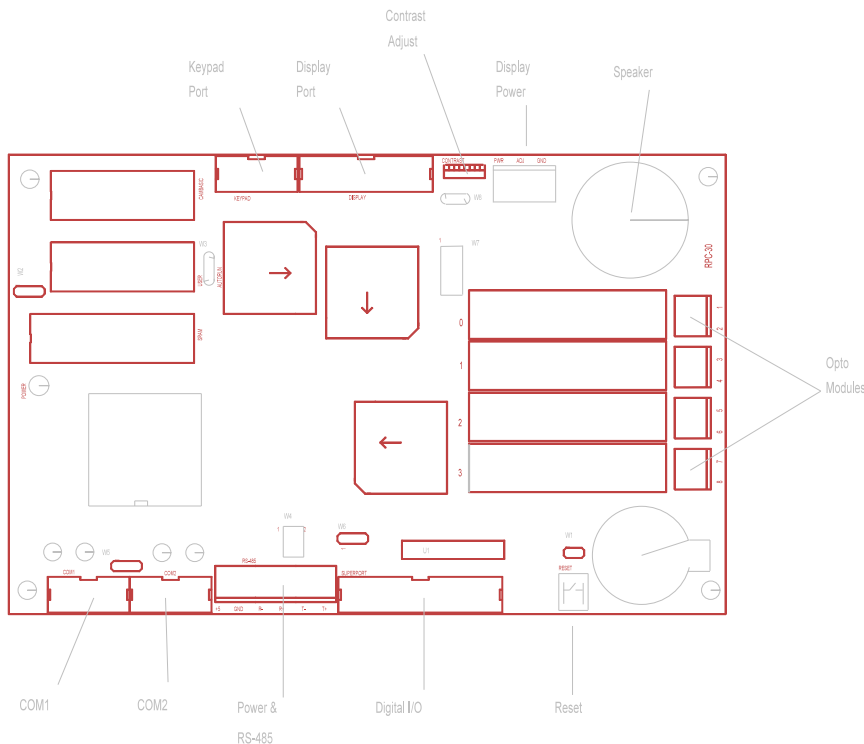

Figure 2-1 RPC-30 Connector Layout
Become familiar with the locations of the connectors before getting started. See Figure 2-1.
2. You can use either a PC or CRT terminal to program the RPC-30. Connect one end of the VTC-9F connector to then 10 pin COM1 port on the RPC-30. Refer to Figure 2-1 for connector location.